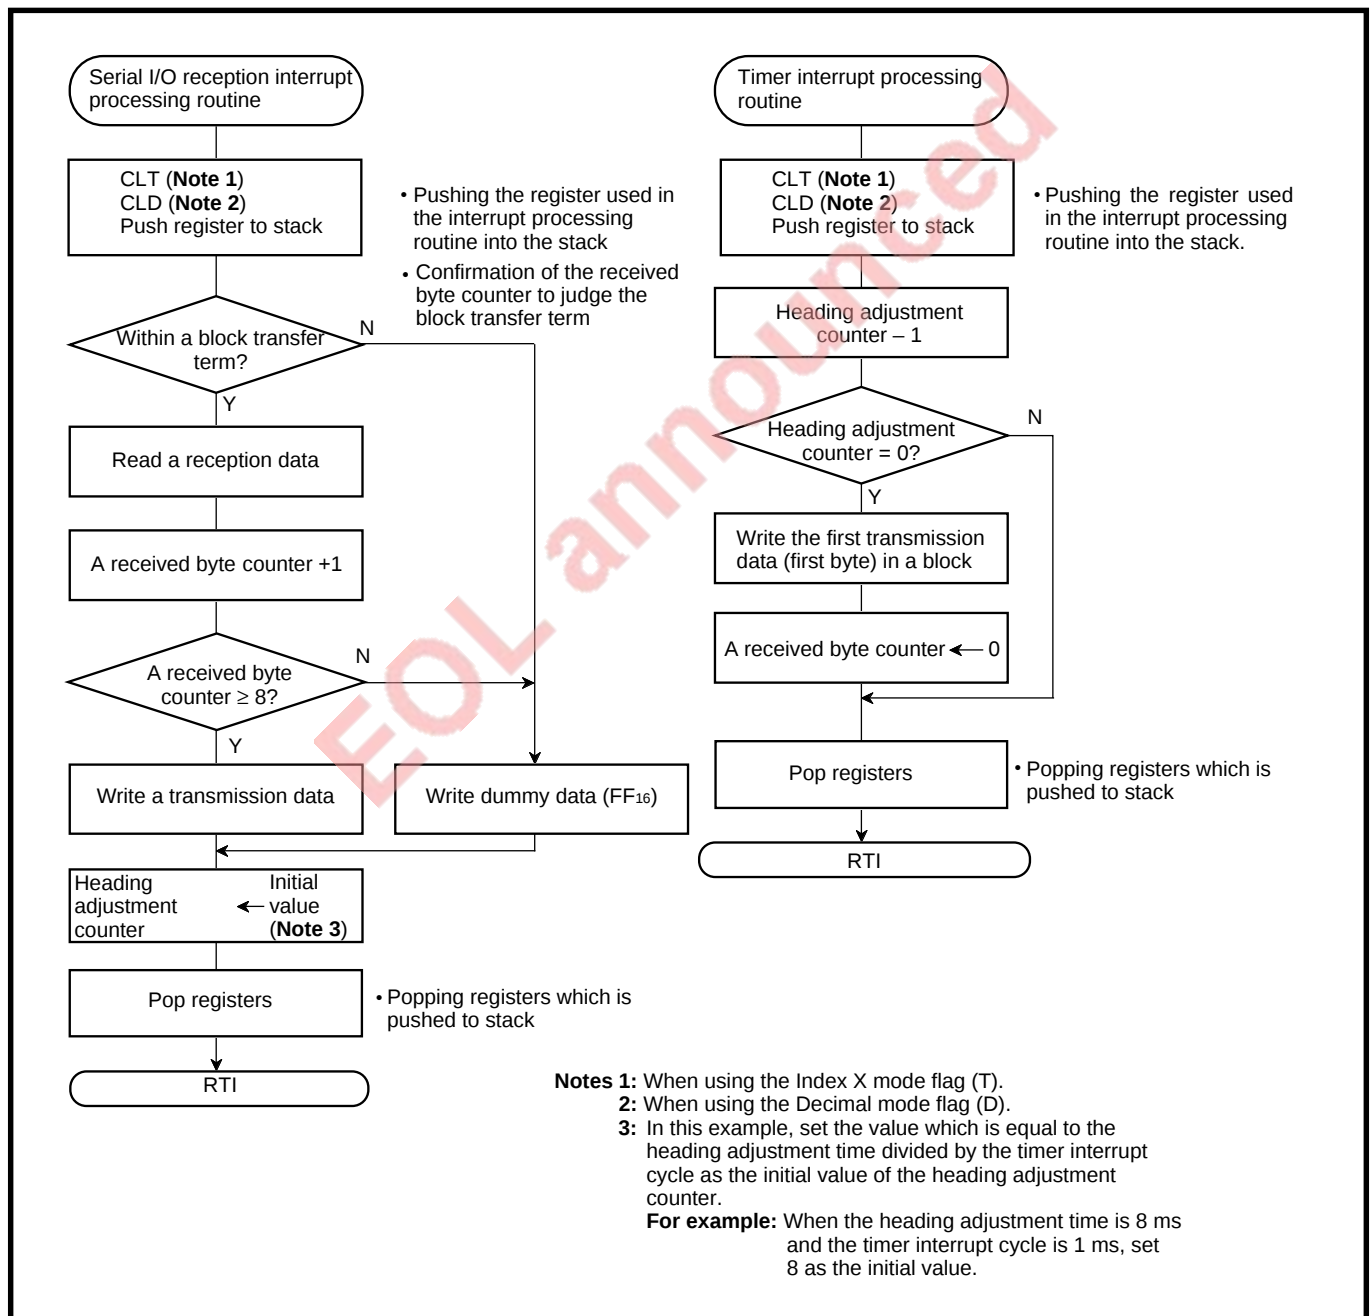

Fig. 2.3.25 Control procedure of slave unit
- Figure 2.3.25 shows a control procedure of the slave unit using the serial I/O interrupt and any timer interrupt (for heading adjustment).